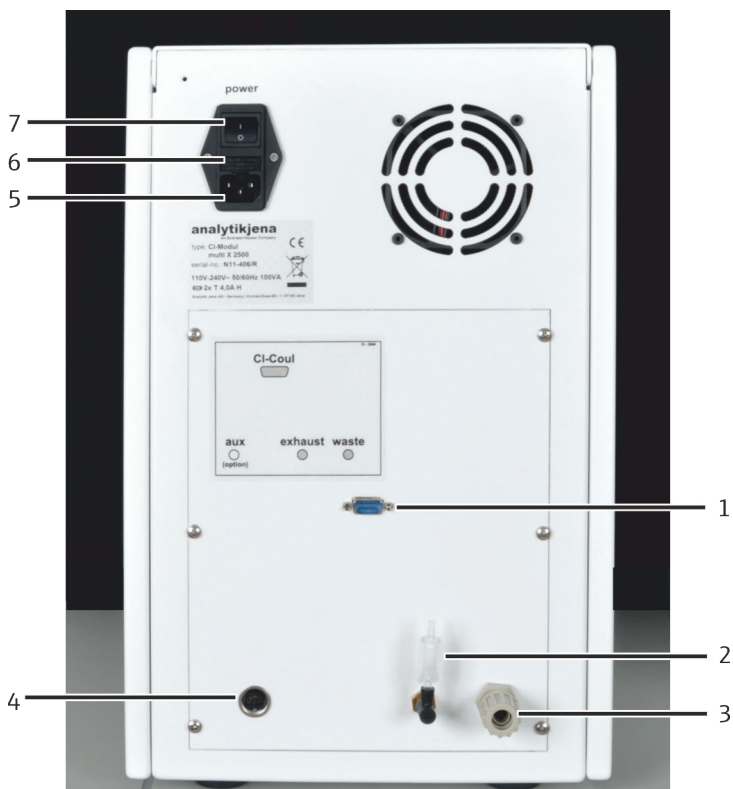

Fig. 19 Connections on the rear of the chlorine module
- Outlet "exhaust" (2 in Fig. 19): Outlet of the intake pump with filter (standard version)
- Outlet "waste" (3 in Fig. 19): Outlet of the exhaust air hose (optional version)